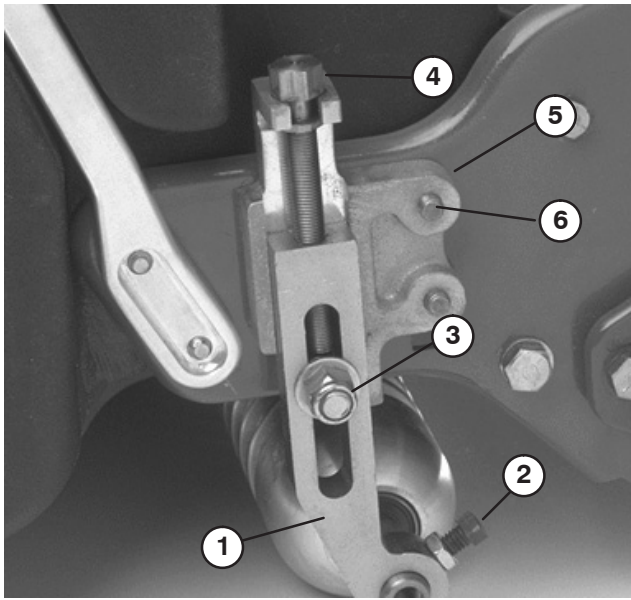

Figure 1
- Loosen the jam nuts and set screws securing each end of the front roller to the height-of-cut arms (Fig. 1).
- Remove the carriage bolts and locknuts securing the height-of-cut arms to the adjusting brackets (Fig. 1). Remove the height-of-cut arms and roller assembly.
- On the Greensmaster 1600 only, remove the height-of-cut adjusting screws, jam nuts and set screws from the height-of-cut arms (Fig. 1).
On the Greensmaster 1000 only, remove the two taper face bolts securing the right and left height-of-cut brackets to the side plates (Fig. 1). Install the height-of-cut brackets to the opposite sides of the machine with the bolts removed. Use the rear sets of mounting holes in the side plates.